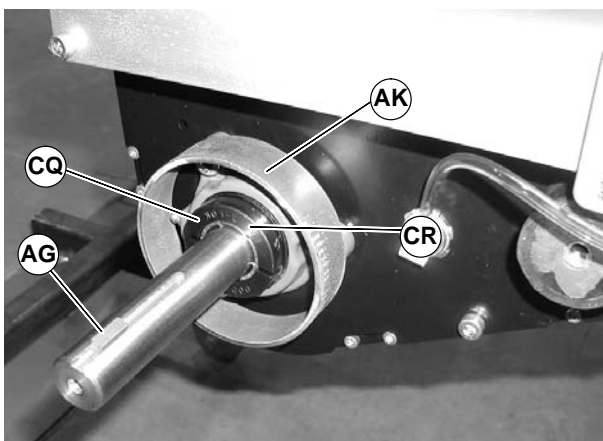

Figure 86
- Remove spacer ring (AK of Figure 86) and key (AG). Loosen clamp screw (CQ) and remove bearing collar (CR).
- Reinstall bearing collar (CR of Figure 86). Tighten clamp screw (CQ) to 95 in-lbs (11 N-m).
- Reinstall key (AG of Figure 86).